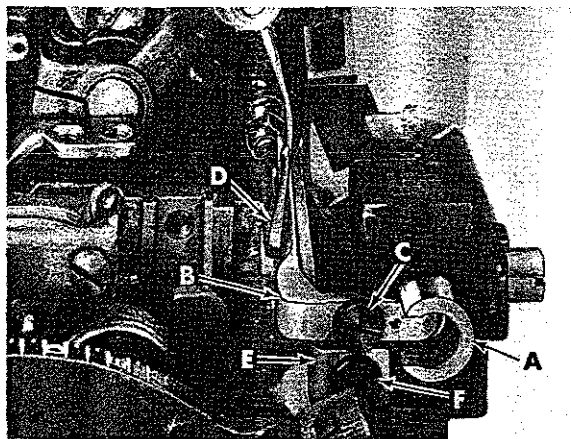

Fig. 8
Remove spring from inside of lower knife holder (A, Fig. 8), then assemble knife holder into throat plate support block.
Replace front needle guard (E, Fig. 8) using screw (F). Temporarily tighten screw (F) to hold guard in position, yet allowing guard to be adjusted.